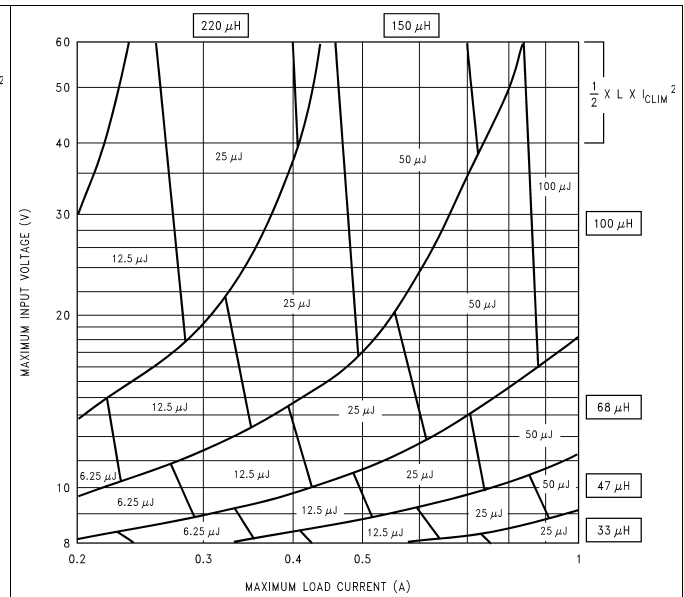

Figure 34. LM2590HV 5-V
1. A first pass inductor selection is based upon Inductance and rated max load current. We choose an inductor with the Inductance value indicated by the nomograph (see Figure 34) and a current rating equal to the maximum load current. We therefore quick-select a 68- μH , 1-A inductor (designed for 150 kHz operation) for this application
2. We must confirm that it is rated to handle 50 μJ (see Figure 34) by either estimating the peak current or by a detailed calculation as shown in AN-1197 Selecting Inductors for Buck Converters (SNVA038), and also that the losses are acceptable.
with the Inductance value indicated by the nomograph (see Figure 34) and a current rating equal to I_{CLIM} . We therefore quick-select a 68- μ H, 4-A inductor (designed for 150 kHz operation) for this application.